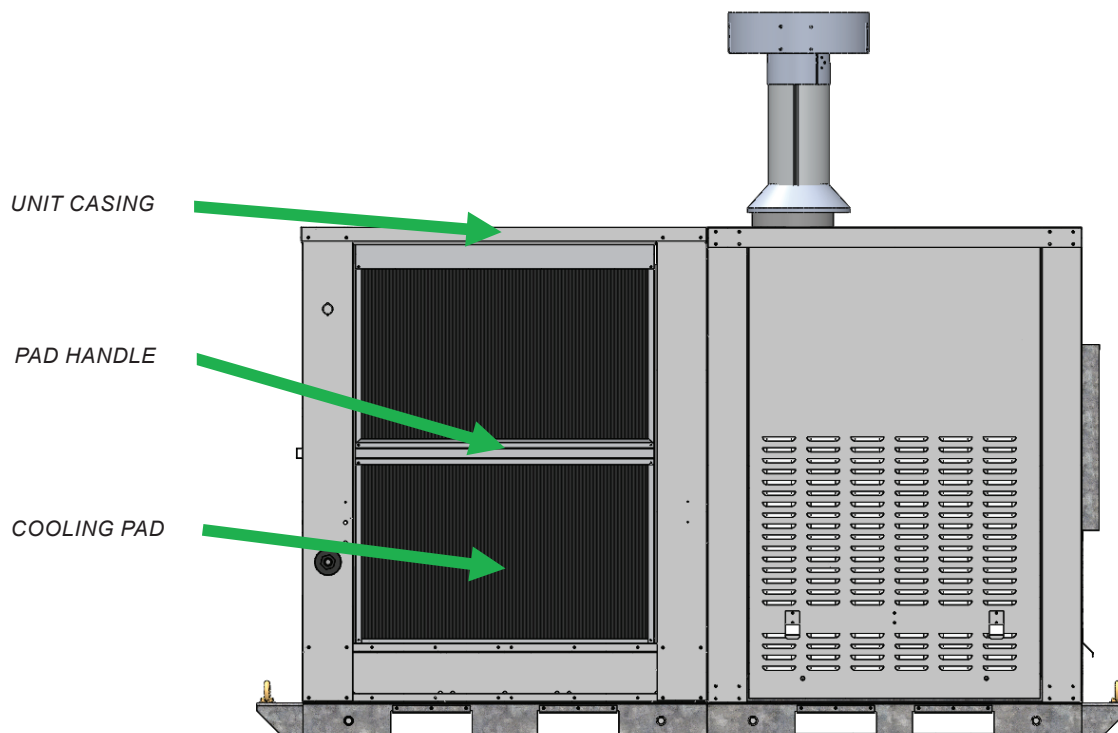

Figure 23: Cooling Pads
2. Lift pad vertically using the handle on the pad frame assembly shown in Figure 23: Cooling Pads